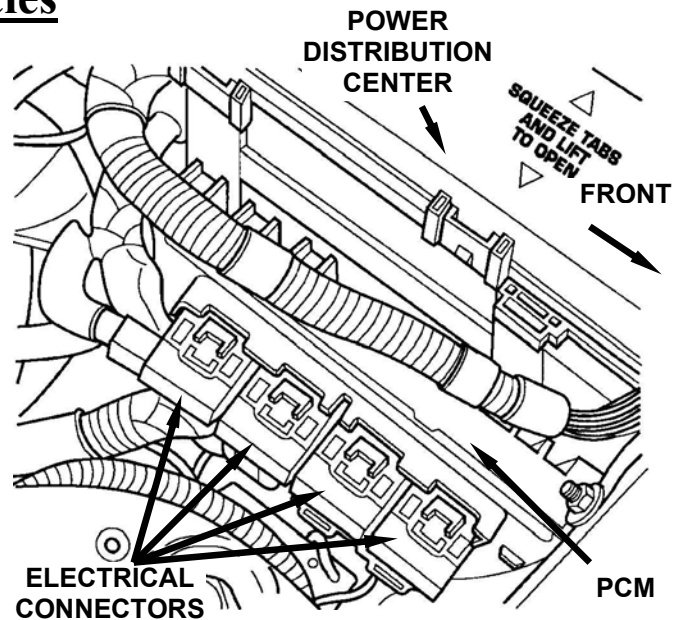

Figure 1
4. Disconnect the four (4) PCM electrical connectors and set the wiring harness aside (Figure 1).
5. Remove the three (3) PCM bolts, then remove the PCM and discard it (Figure 1).
6. Install the new PCM. Tighten the mounting bolts to 35 in-lbs (4 N·m) (Figure 1).
7. Connect the four (4) PCM electrical connectors (Figure 1).